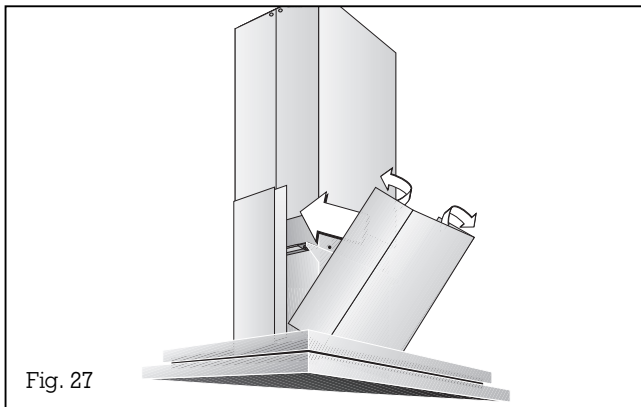

Fig. 27
15. Place the bottom chimney duct unit which has no magnetic strips on the extractor hood. The second bottom chimney duct (which has magnetic strips) should be slightly bent open, in order to slide over the first chimney duct easily. Adjust to leave no gap (Fig. 27).